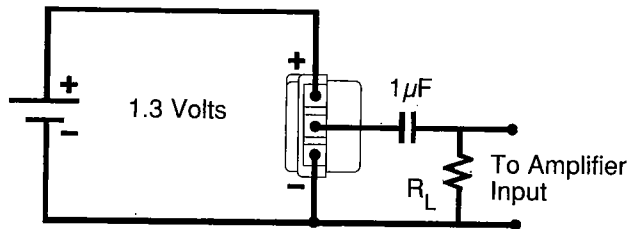

Figure 2
**Application:** The circuit of Figure 2 will allow these units to be connected in place of most two-wire microphones. A load resistor  $R_L$  may be necessary to reduce the sensitivity to a suitable level, and will produce a d.c. current path for those circuits which presently